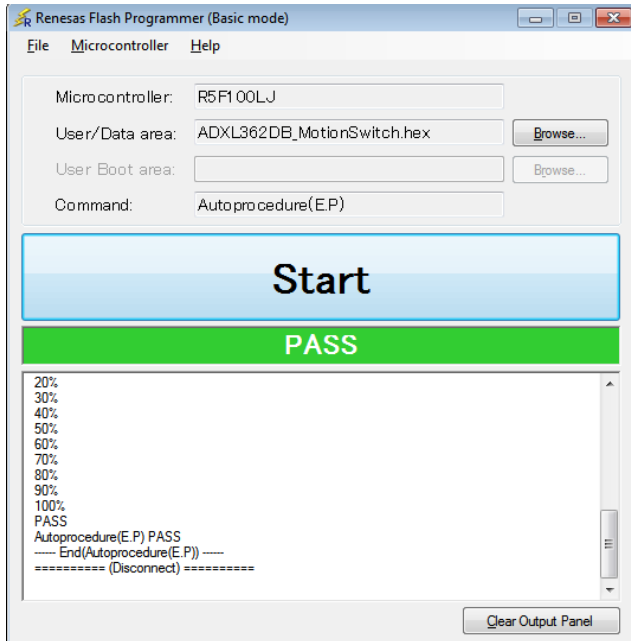

Figure 21. Install Firmware Success
8. Wait for programming code flash, you will get the interface as shown in Figure 21 after a while. Close the Renesas Flash Programmer to finish the firmware installation.